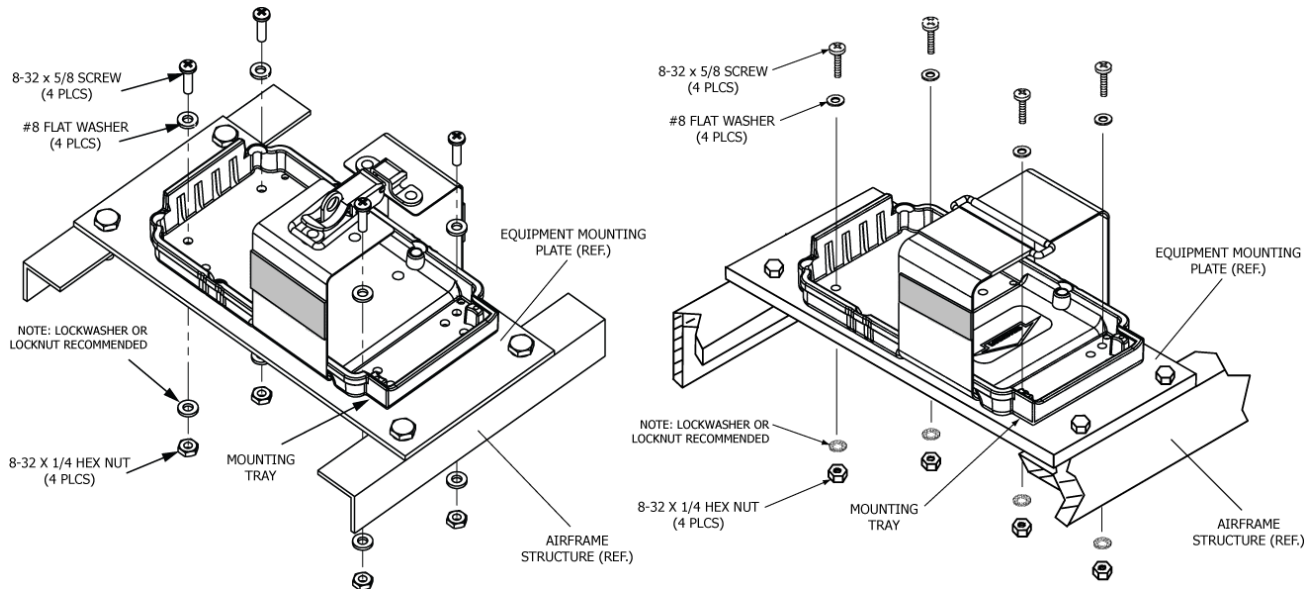

Figure 16 Typical Mounting Tray Installation
- 1) See Figure 16 Typical Mounting Tray Installation.